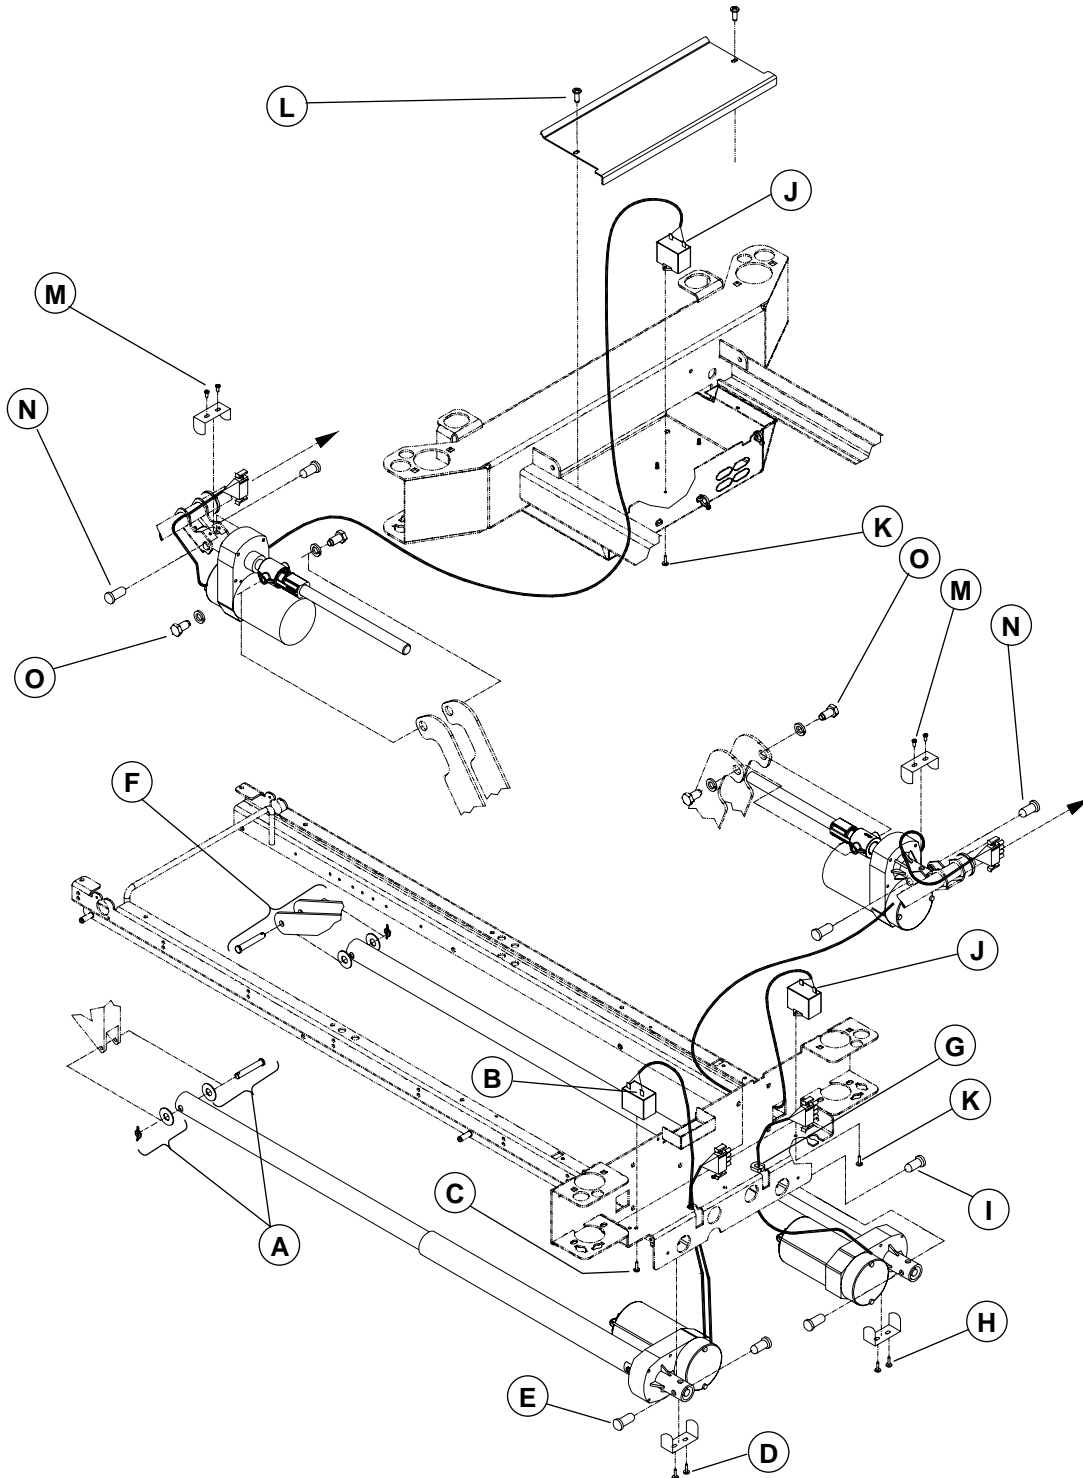

Figure 4.3B
5. Using long nose pliers, remove the rue ring cotter/washers/clevis pin (F, fig. 4.3B, page 30) linking the thigh section lever arms to the thigh actuator tube.
8. Using a Phillips screwdriver, remove the two screws (E) holding the micro switch activator to the thigh section. Install the activator on the new thigh section.
7. Using a 1/2" wrench, remove the nuts/shoulder spacers/bolts (J) holding the head section to the stabilizer arms. Lower the stabilizer arms.
9. Using long nose pliers, remove the Rue ring cotter/washers/clevis pin (A, fig. 4.3B, page 30) holding the lower part of the head section lever to the head actuator tube.
Unless otherwise indicated, refer to figure 4.3B on page 30 for the illustration of this procedure reference points.